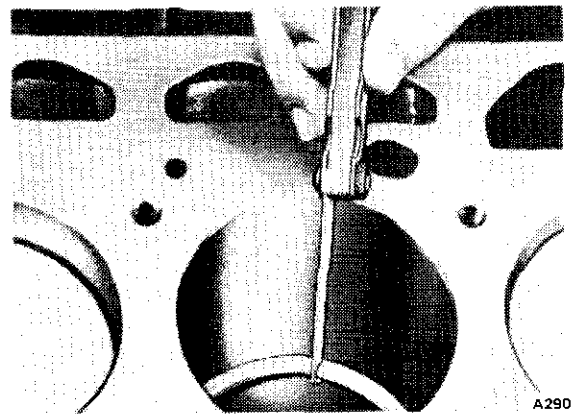

FIG. 35 Checking Piston Ring Gap
5. Measure the gap between the ends of the ring with a feeler gauge (Fig. 35). If the ring gap is less or greater than the specified limits, try another ring set.